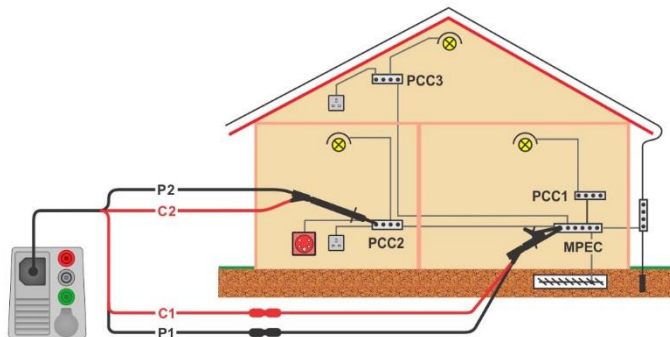

Figure 7.28: Connection of 4-wire test lead plus optional extension leads
- › Connect test leads to device under test, see **Figure 7.28**. Use extension leads if necessary.